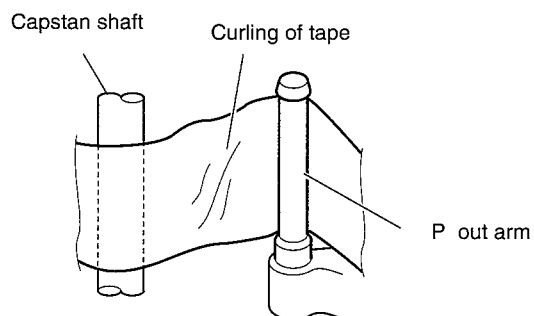

Fig. 3-4c
- 3) Make sure that there is no twisting of tape between the capstan shaft and P. out arm (see Fig. 3-4c).